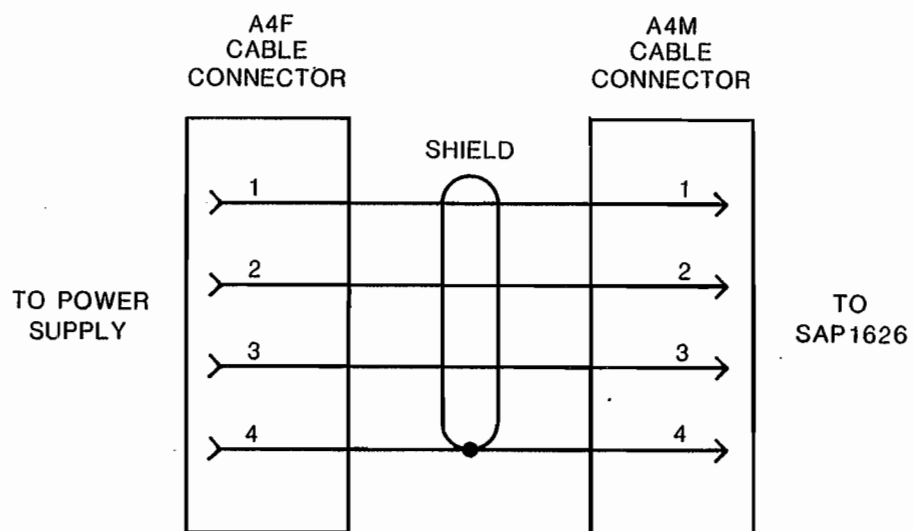

Figure 2-2
Figure 2-2 shows the wiring of a four-conductor cable**.
2. Four Conductor Cable: See Figure 2-2.